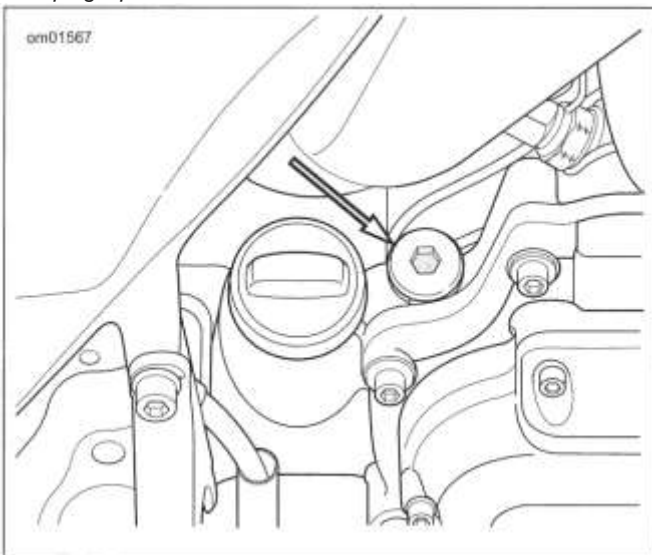

Figure 2-9. Transmission Filler Plug/Dipstick Location
2. See Figure 2-9. Remove transmission filler plug/dipstick. Wipe dipstick clean.
1. See Figure 2-9. Remove transmission filler plug/dipstick. Do not over-tighten filler or drain plug. Doing so could result in a lubricant leak. (00200b)